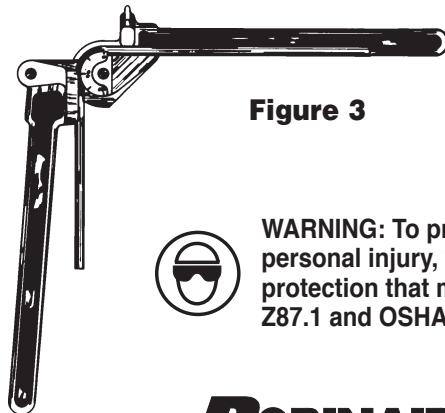

Figure 3
4. Move backplate handle around forming head until desired angle is attained as indicated by the alignment of the calibration marks. See Figure 3.